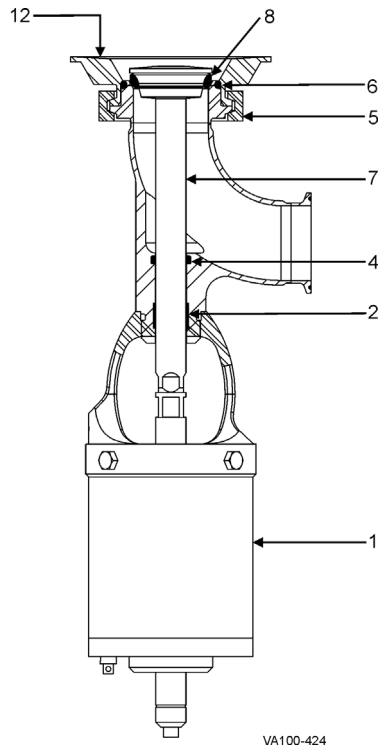

Figure 23: W64ET Tank Outlet Valve
2. Install the stem o-ring (Figure 23, item 4) and PTFE bearing (item 2).
3. Using 5/8-inch torque wrench flats on the stem, install the valve stem (item 7). Torque to 380 in/lbs.
4. Install the lower body o-ring (item 6) onto the body.
5. Insert the valve into the tank flange and tighten the body clamp (item 5).